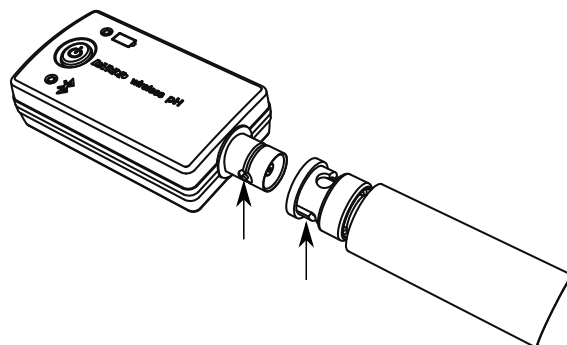

Figure 1. Align the tabs on the sensor's BNC connector with the slots on the pH probe's BNC connector.
1. Align the tabs on the sensor's BNC connector with the slots on the probe's BNC connector (**Figure 1**).